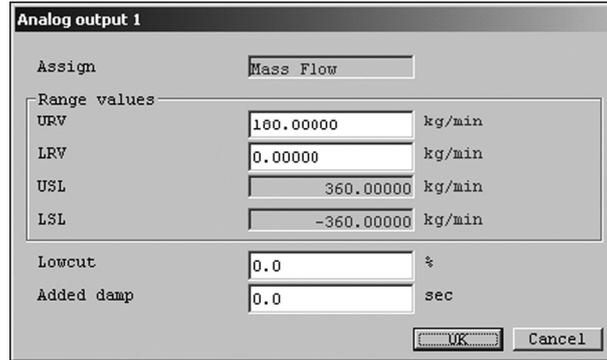

Fig.31
- ① Click the "Setup (S)" menu, and then select and click "Analog output 1" from the "Outputs" drop-down list.
② The following window will be displayed (Fig. 31). Set analog output 1 here.